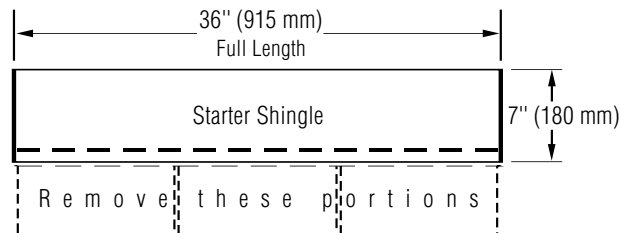

Figure 12-7: Make starter shingles by removing the lower 5" tabs.
1. Use CertainTeed Swiftstart or Universal Starter, or use standard three-tab self-sealing shingles with the lower 5" tab portions removed to provide starter shingles that are 7" in height (Figure 12-7).